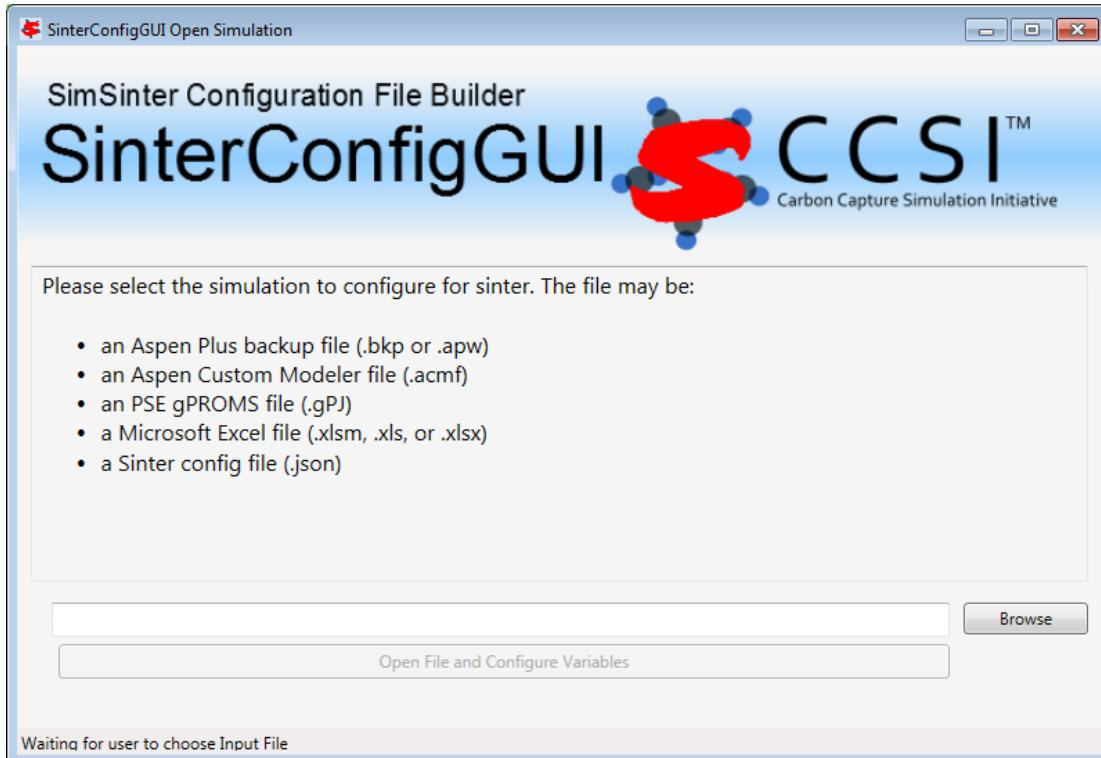

Figure 3: SinterConfigGUI Open Simulation window.
3. The SinterConfigGUI Open Simulation window displays as shown in Figure 3. Click “Browse” to select the file to open, or type the filename into the text box and click “Open File and Configure Variables” to open the file. The user can either open a fresh ACM simulation (.acmf file) or an existing Sinter configuration file. In these instructions, the ACM test included in the SimSinter installation at C:\SimSinterFiles\ACM_Install_Test\Flash_Example.acmf is opened.